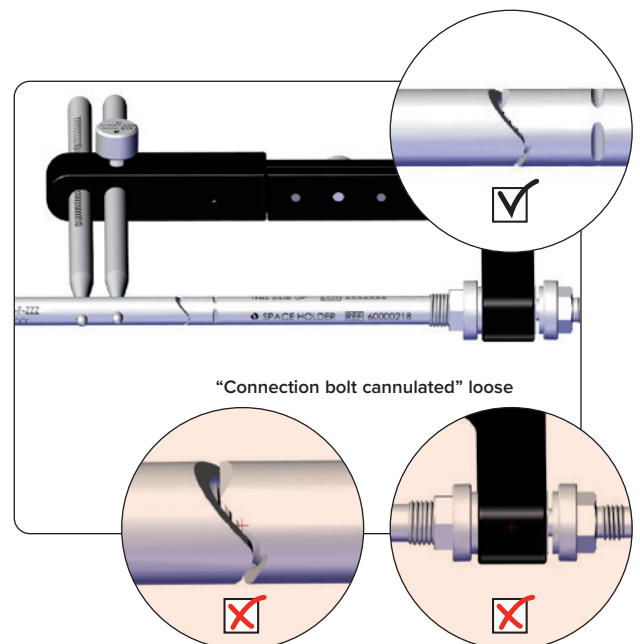

Fig. 45 Connection Bolt loose
4. The dummy/trial nail is loosely fixed to the “connection bolt”. (Fig. 45)